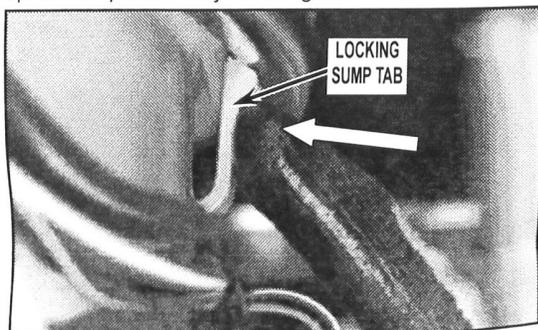

FIGURE 1
8. Push in on locking sump tab and break seal by gently pushing up on sump assembly. See Figure 1.